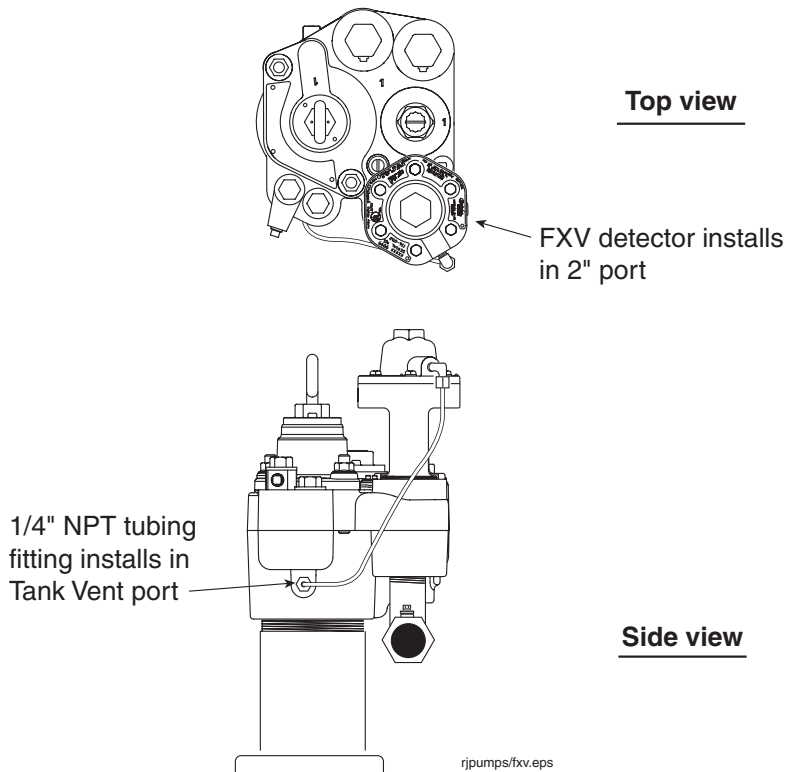

Figure 2. Installing FXV in The Red Jacket pump
- a. Remove 1/4-inch pipe plug from tank test port in the Packer (on 6-inch Big-Flo applications, remove the 1/4-inch pipe plug from the riser/flange assembly, for The Red Jacket pumps, see Figure 2).